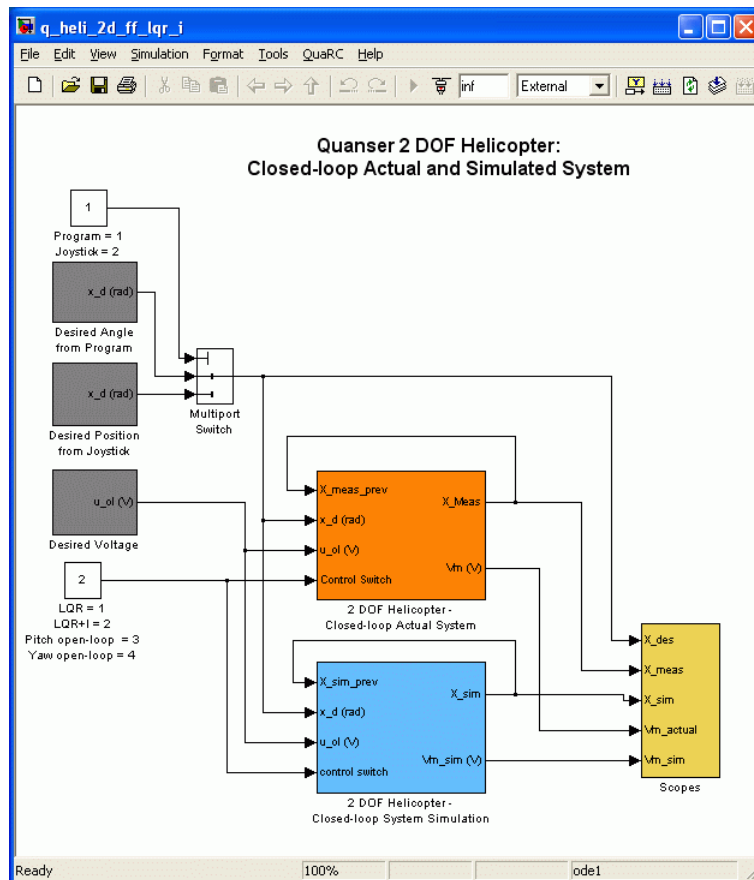

Figure 5.19: Simulink model used with QUARC to run the closed-loop controller on the 2-DOF Helicopter
2. Open Simulink model *q_heli_2d_ff_lqr_i.mdl* shown in Figure 5.19 that implements the closed-loop LQR and LQR+I position controllers.
5. Open the *2-DOF HELI* subsystem shown in Figure 5.19. It contains the QUARC blocks that interface with the hardware of the actual plant. The Analog Output block outputs the voltage computed by the controller to the DAQ board and the Encoder Input block reads the encoder measurements.
9. In the *q_heli_2d_ff_lqr_i* Simulink diagram, make sure the *Program/Joystick* block shown in Figure 5.19 is set to 1 in order to generate the desired angle from Simulink.
21. Alternatively, the desired angle can be generated using the joystick. To use the joystick, set the *Program/Joystick* switch shown in Figure 5.19 to 2. The rate at which the desired angle increases or decreases given a joystick position can be changed using the *K_JOYSTICK_X* and *K_JOYSTICK_Y* variables that are set in the *setup_lab_heli_2d.m* script file and the using the *Rate Command* knob. When starting, set the *Rate Command* knob on the joystick to the midpoint position.